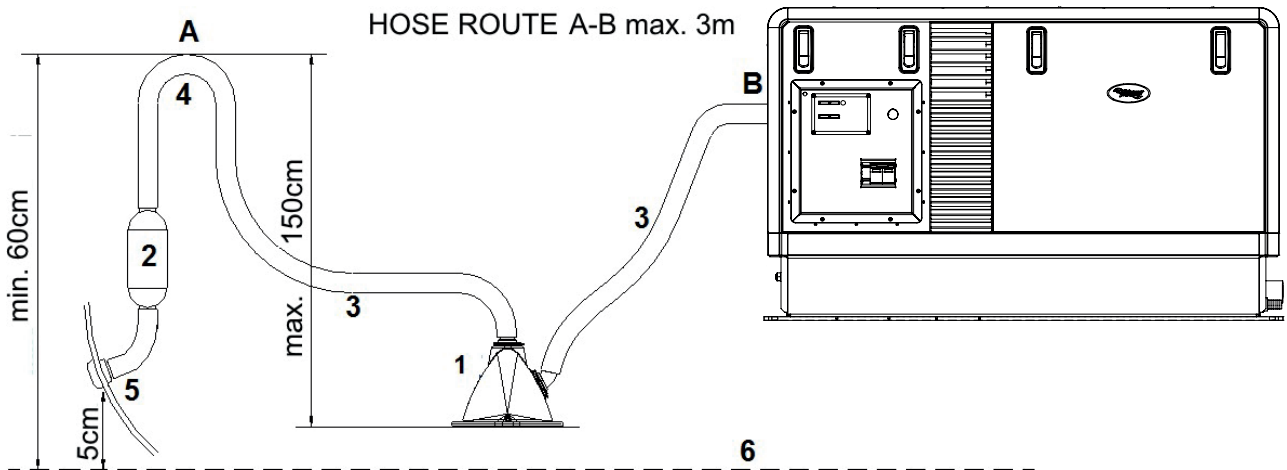
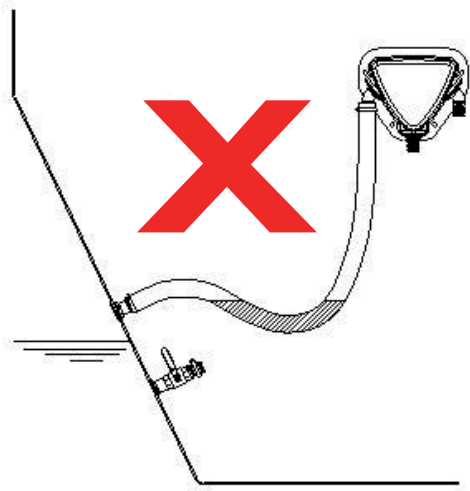

Fig. 8: Exhaust system
Fig. 11: Water trap in exhaust system
The exhaust hose descends from the capsule to the water lock. Then the hose rises via the “goose neck” to the through-hull exhaust outlet, situated minimum 50 mm above the water line (see fig. 8, ref 5.) The “goose neck” must be vertical and situated preferable along the ship’s keel centre line. If the generating set is mounted less than 600 mm (24”) above the waterline, a “goose neck” must be installed to prevent the engine from overflowing. It is recommended to install an extra muffler close to the through-hull fitting.
However water traps should be avoided as the fumes still contains water and this should not accumulate in bends (see fig. 11). An additional outlet exhaust muffler close to the hull outlet will help further to reduce noise emission (figure 8, ref. 2)